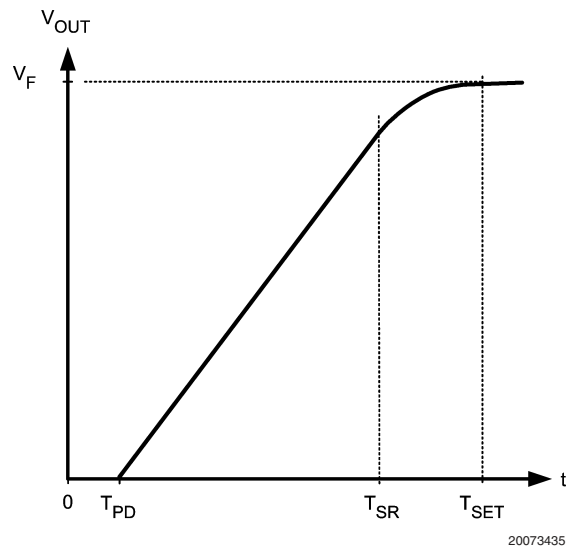

FIGURE 10. Large Signal Transient Response of an Operational Amplifier
*Figure 10* illustrates how an op amp responds to a large-signal transient. When such a transient occurs at  $t = 0$ , the output does not start changing until  $T_{PD}$ , which is the op amp's propagation delay time (typically 20ns for the LM6588). The output then changes at the op amp's slew rate from  $t = T_{PD}$  to  $T_{SR}$ . From  $t = T_{SR}$  to  $T_{SET}$ , the output settles to its final value ( $V_F$ ) at a speed determined by the op amp's small-signal frequency response. Although propagation de-